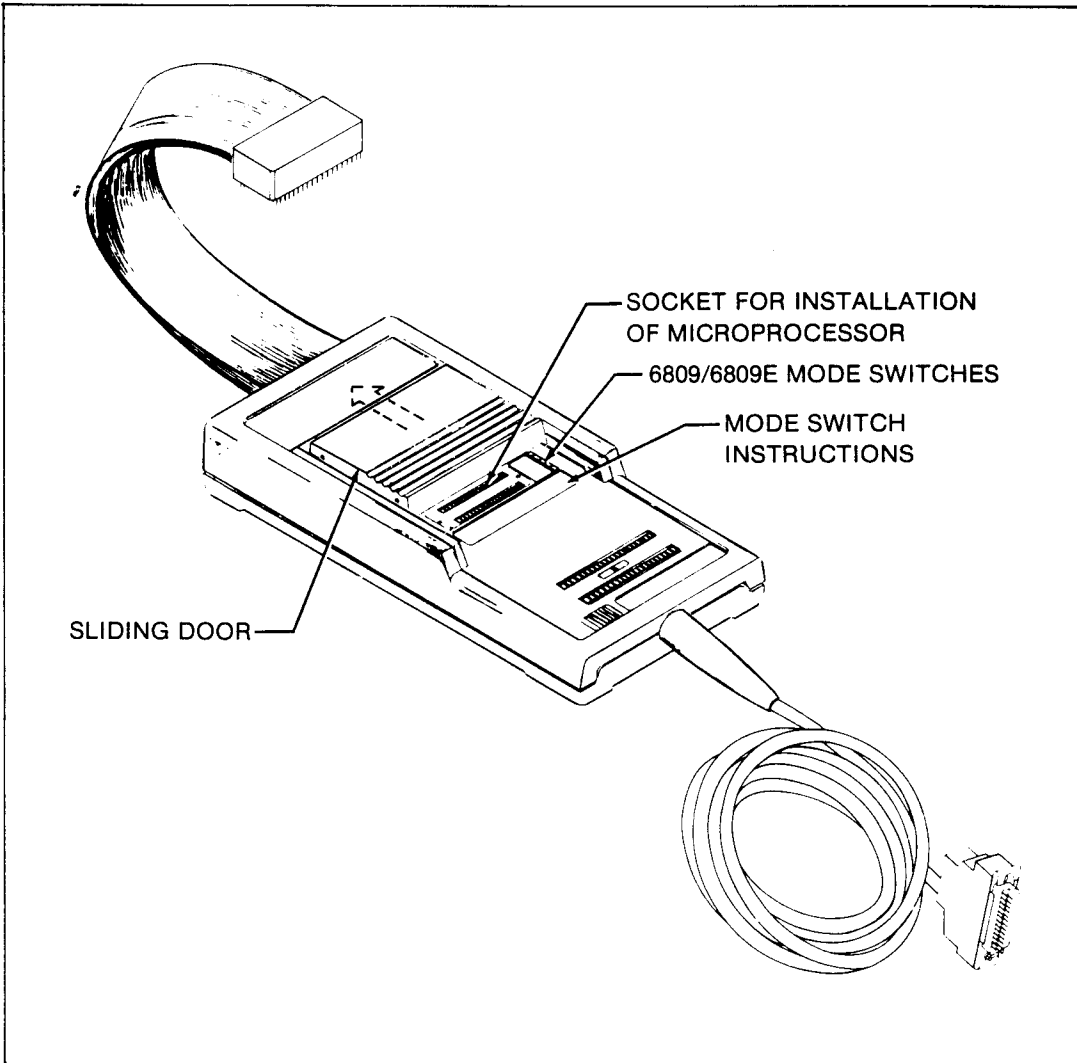

Figure 2-1. Location of Microprocessor Socket and 6809/6809E Mode Switches
3. Install the microprocessor in the pod microprocessor socket that is exposed under the sliding door as shown in Figure 2-1. The pod socket is opened or closed by using a screwdriver to turn the screw at the end of the socket. Turn the screw counterclockwise to open the socket, and clockwise to close the socket.
4. Place the 6809/6809E mode switches indicated in Figure 2-1 to the correct position as indicated on the decal beside the switches. (Notice that switch 4 is in the same position for both modes; switch 4 has a special use during pod troubleshooting as explained in the subsection in Section 6 titled Preparation for Troubleshooting a Defective Pod.)